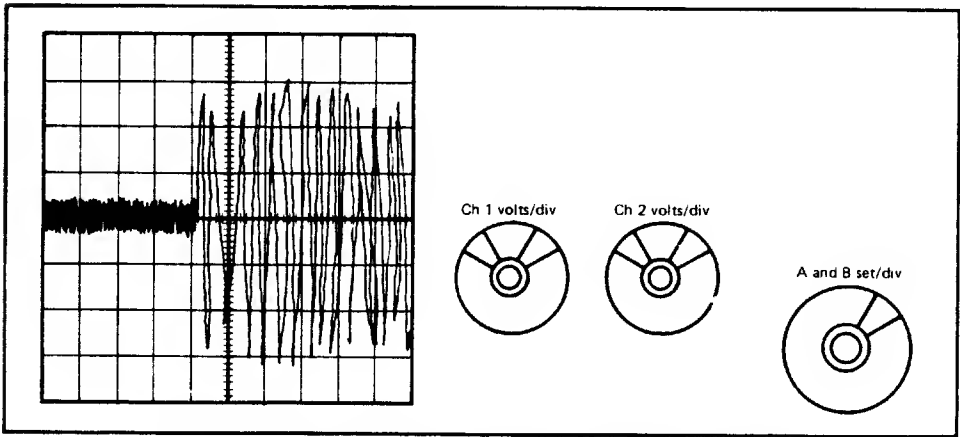

FIGURE 6-13. OSCILLOSCOPE PATTERN FOR INDEX SENSOR TIMING
- 6.3.5.7 Observe timing between start of sweep and first Data Pulse on Oscilloscope. (See Figure 6-13.) Timing should be 200 ± 50 microseconds. If timing is not within tolerance, continue adjustment.
- 6.4.4.7 Observe timing between start of sweep and first data burst on oscilloscope. (See Figure 6-13.) Timing should be 200 ± 50 microseconds. If timing is not within tolerance, continue adjustment.